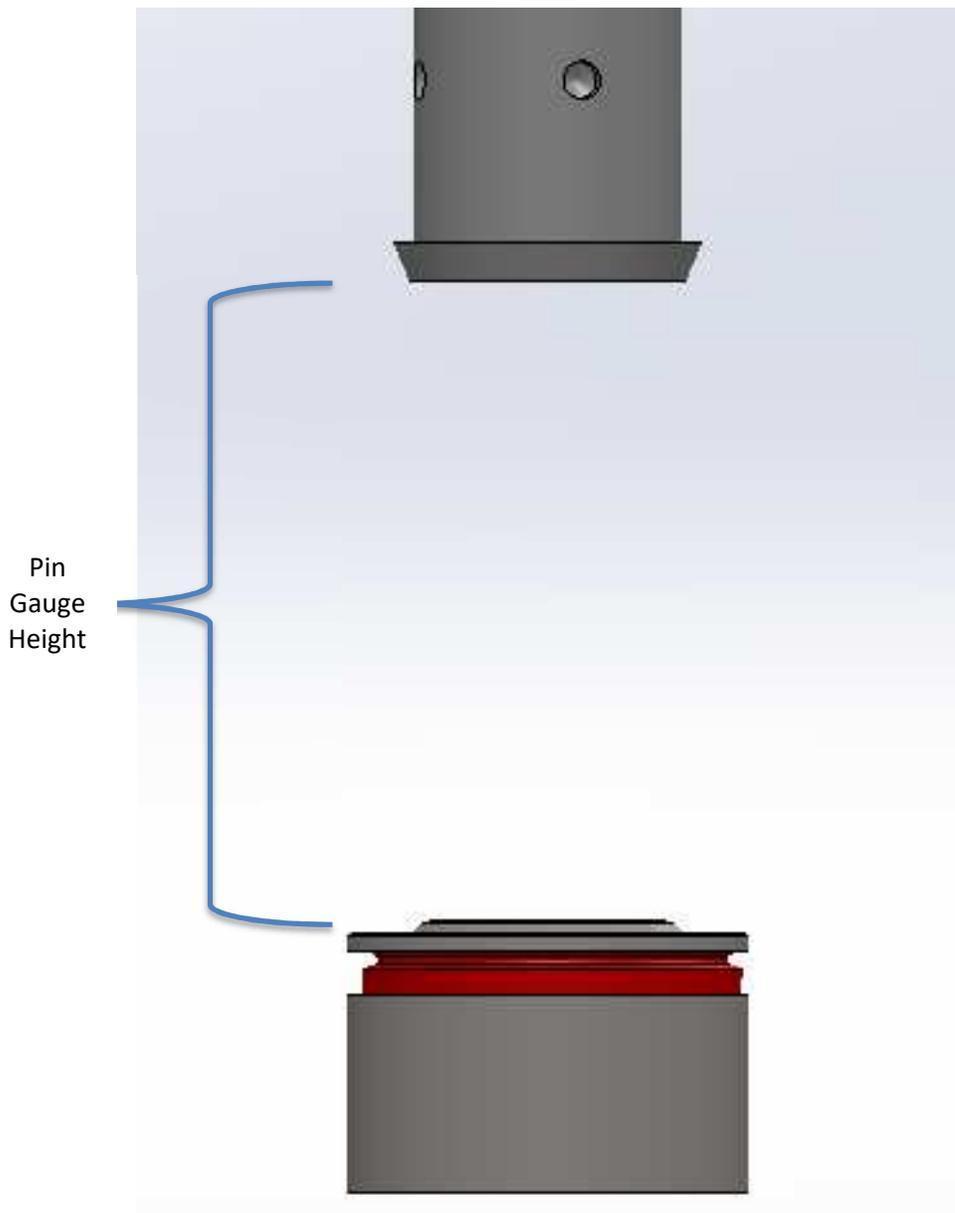

Figure 6. Pin Gauge Height
1. **Ensure pin gauge height** (Figure 6)